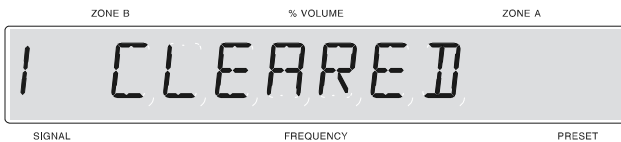

Figure 29
3. Press and Hold the ENTER pushbutton for approximately 5 seconds until the front panel display indicates the preset number and the word CLEARED appears on the front panel display. Refer to figure 29.